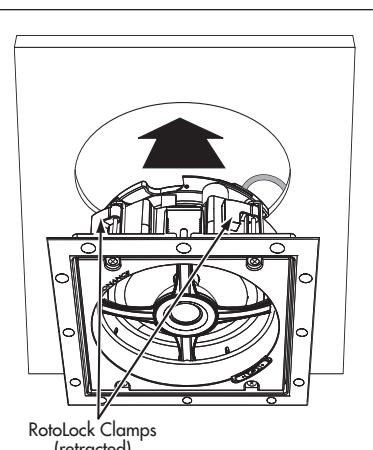

FIGURE 4: INSERTING THE SPEAKER INTO THE MOUNTING HOLE
4. Make sure all the RotoLock clamps are retracted so that they are tucked within the mounting hole's border. Insert the speaker into the hole in the ceiling (*Figure 4*). The RotoLock system can accommodate a maximum ceiling material thickness of 1 $\frac{1}{4}$ ".